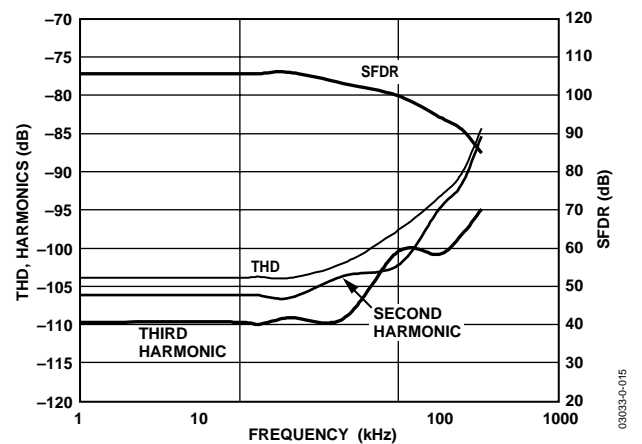

Figure 15. THD, Harmonics, and SFDR vs. Frequency
- The driver needs to have a THD performance suitable to that of the AD7661. Figure 15 gives the THD versus frequency that the driver should exceed.